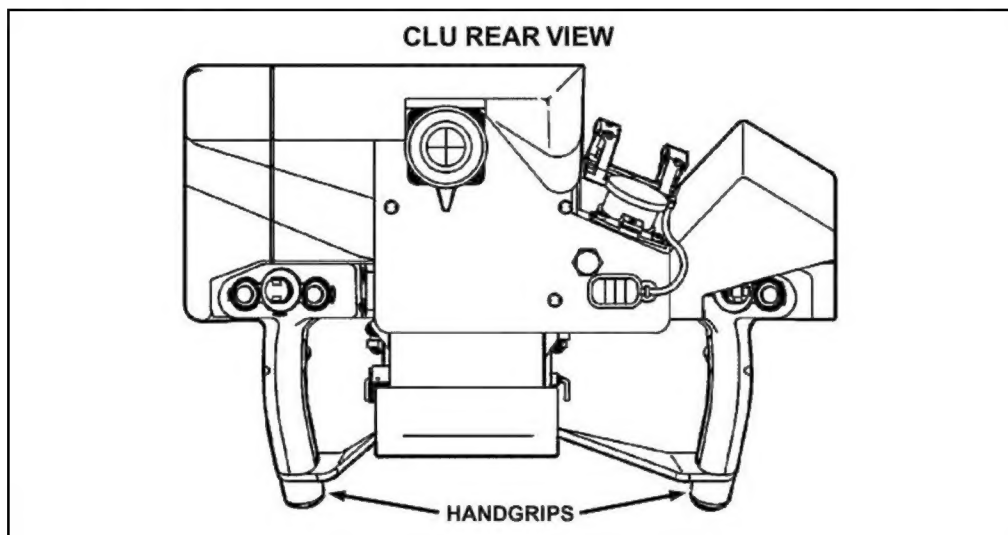

Figure 1-8. Handgrips.
c. **Handgrips.** The gunner uses the handgrips attached to the sides of the main housing (Figure 1-8) to hold the CLU. The gunner uses the controls on the handgrips for all Javelin operations.